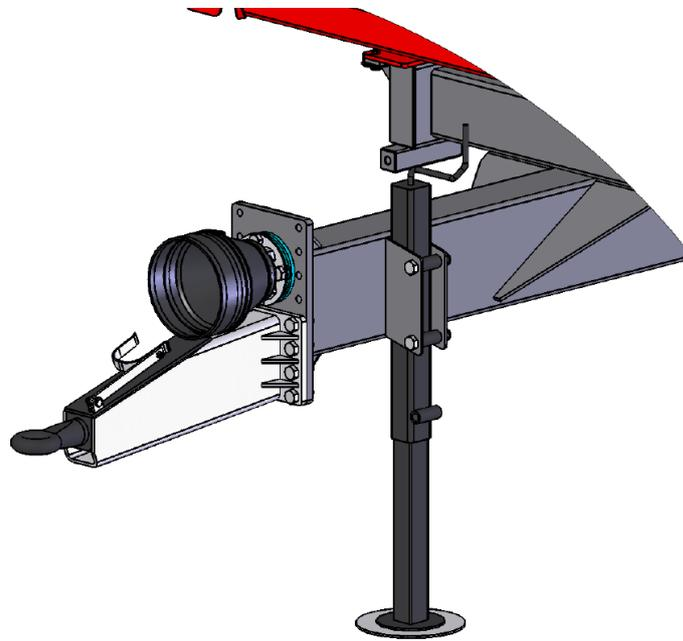

Fig. 2. N272/1, N272/2 spreader support.
Before disconnecting/decoupling the spreader from the tractor, first engage the machine parking brake and lower the support – see fig. 2 item 1.